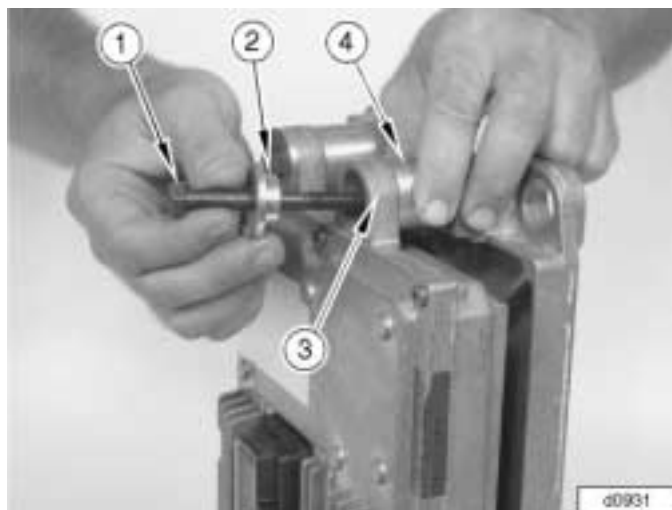

Figure 7: Orientation of the IDM / ECM Spacers and Bolts
2. **NOTE:** When assembling the IDM and the ECM, orient items 1 through 4 as shown in Figure 7. Continue to step 3 for assembly.
3. Assemble the ECM and the IDM: Reference Figures 7 and 8.
- b. Install and finger tighten all four bolts and hardware as shown in Figures 7 and 8, with all four nuts on top.